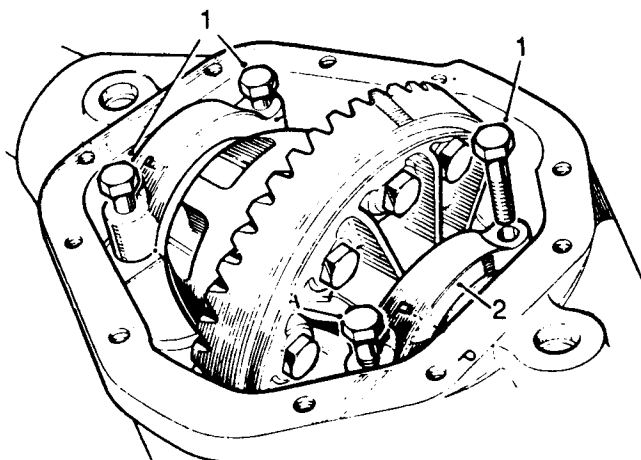

Fig J2.6
- (2) Refer to Fig J2.6. Remove the axle spreader.
- (3) Fit the bearing caps (2) in their correct position, referring to the relationship markings on the caps and on the axle casing.
- (4) Tighten the bearing caps fixings to 129 to 145 N.m. (1).